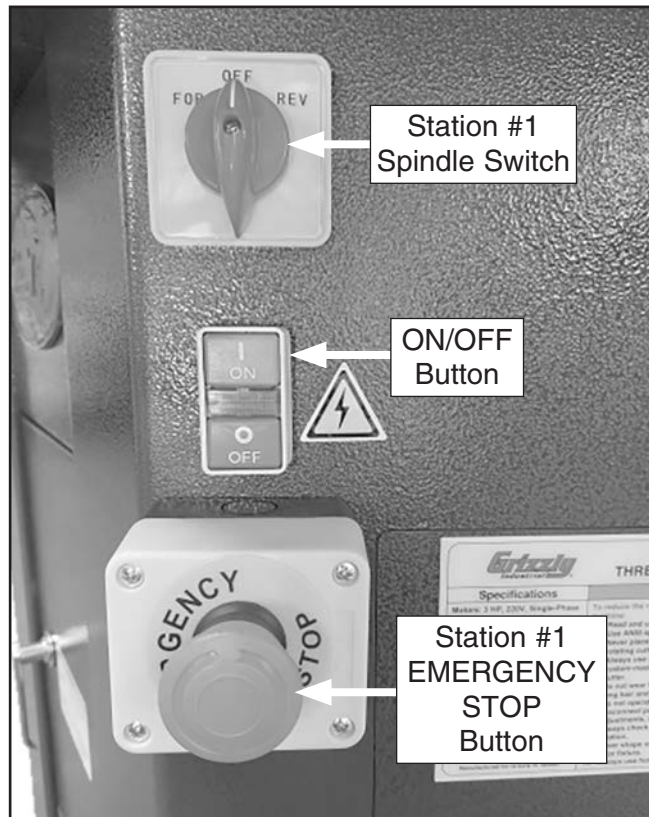

Figure 2. Location of station #1 controls.
6. Press ON button (see **Figure 2**).
8. Press EMERGENCY STOP button at station #1 to turn motor **OFF** (see **Figure 2**).
7. At station #1, turn spindle switch to FOR position to turn motor **ON** (see **Figure 2**). Motor should run smoothly and without unusual problems or noises.